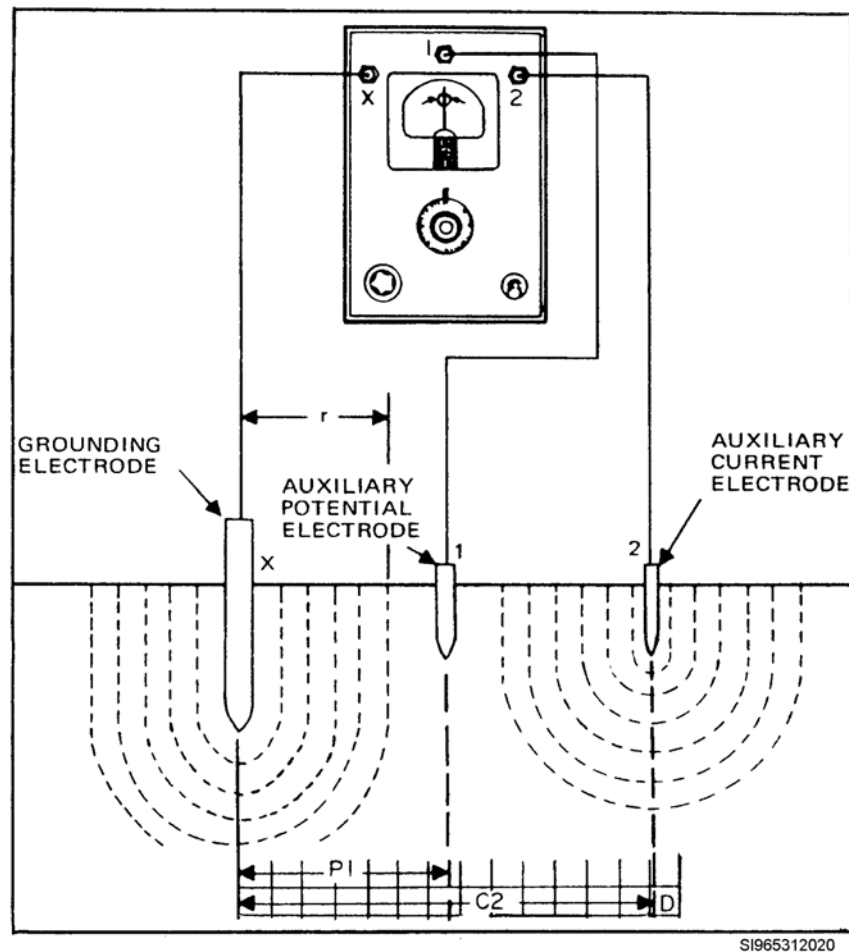

Figure 1, Basic setup for measuring earth resistance
- For all other discrepancies, turn the truck into the motor pool for repair as soon as possible. Now check the actual AF Form 1806 in Figures 1 and 2 as we clarify particular inspection items on the form.